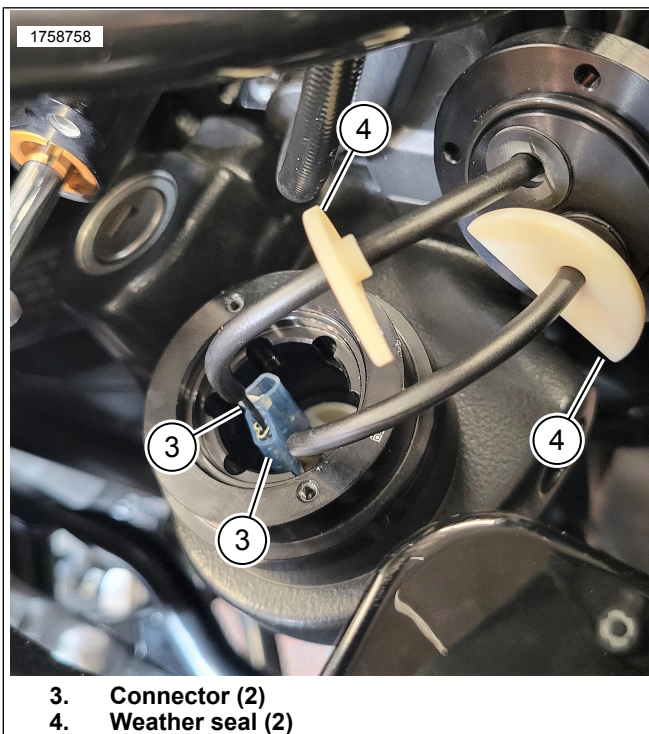

Figure 3. Connectors
3. See Figure 3. Reposition weather seals (4) on the Adaptive Ride Height (ARH) wires.
4. Inspect that both connectors (3) are secure and firmly in place. Make sure wires are properly crimped to terminals.